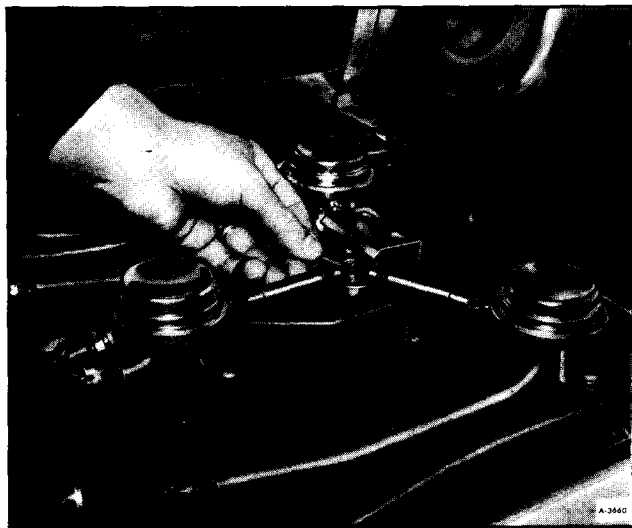

Figure 3—Lighting Range Pilot
5. Light range pilot with a match as shown in Figure 3.